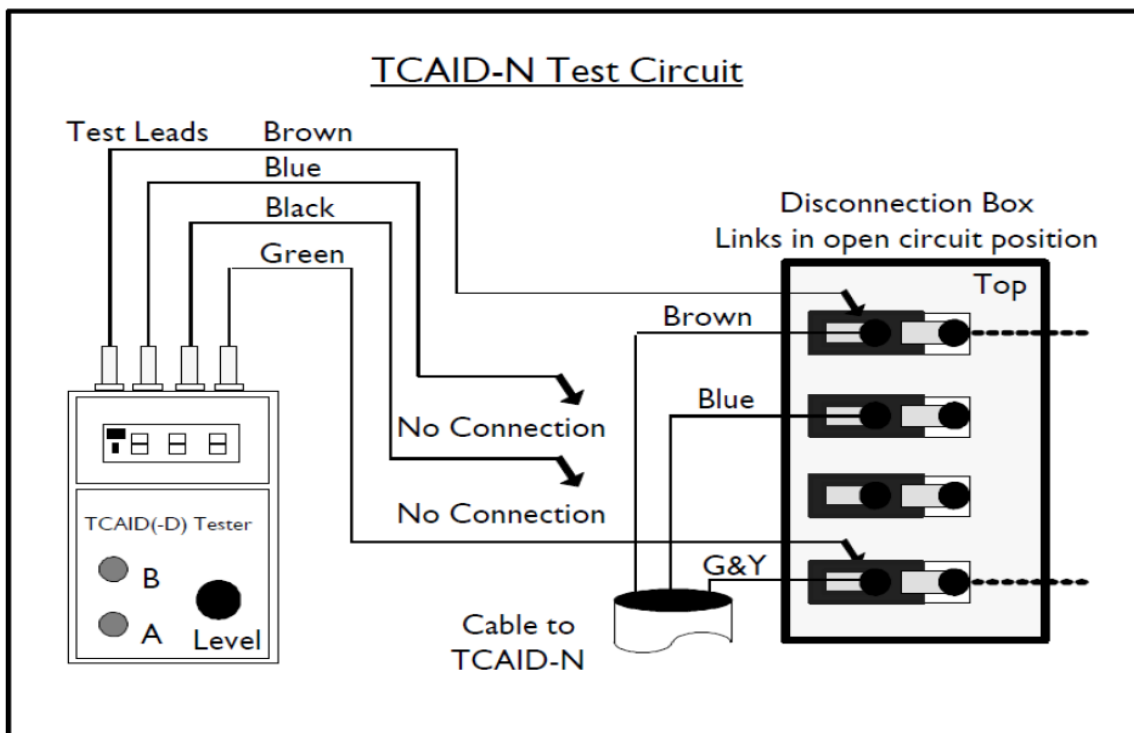
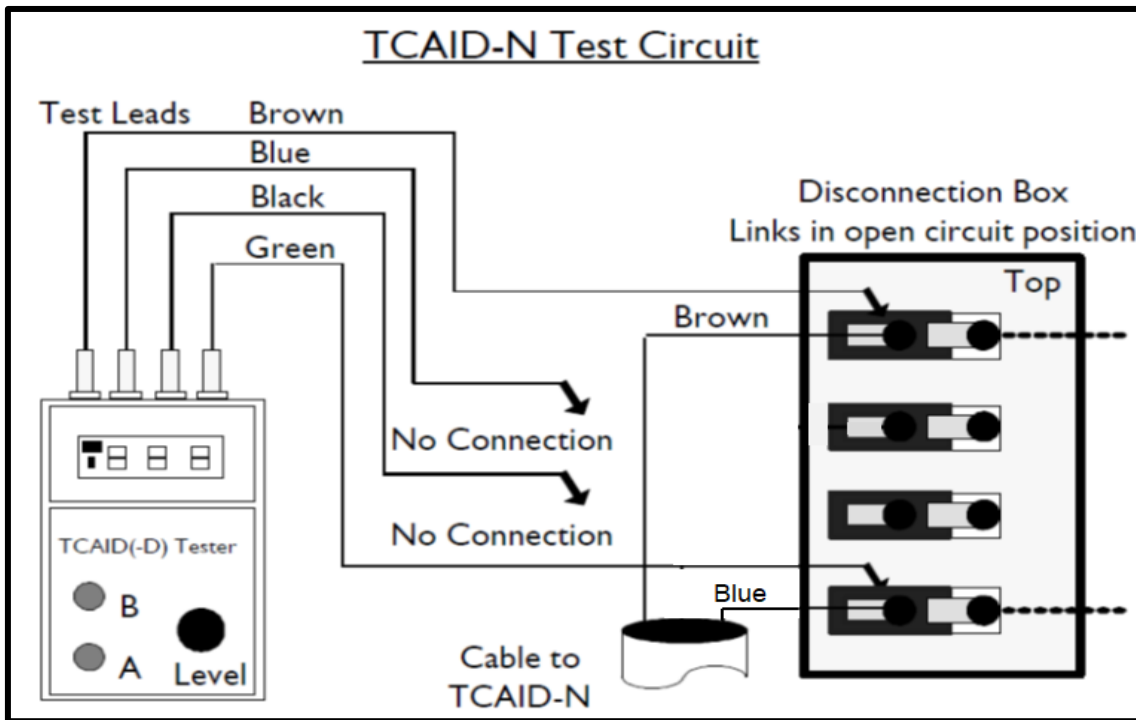
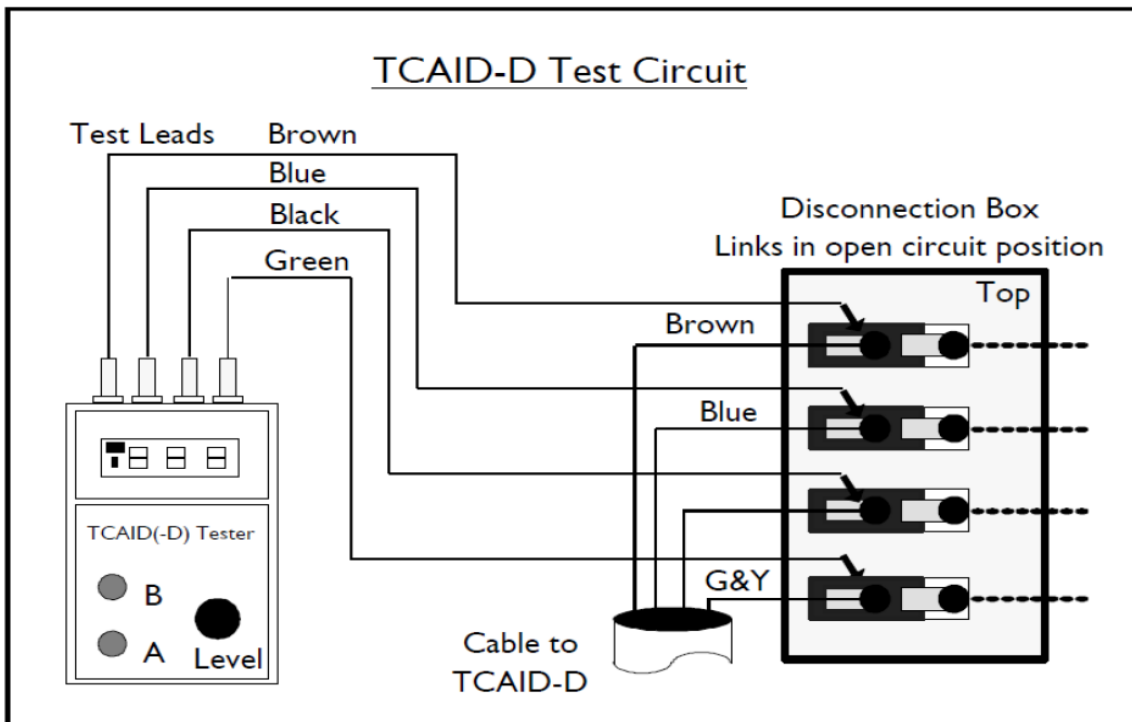

Figure 1 - Tester set up (non-directional) for MOD 0-2 versions
Figure 2 - Tester set up (non-directional) for MOD 3 versions
Figure 3 - Tester set up (directional) for all MOD versions
- 2.1 Connect the tester as shown below (Fig 1- non directional MOD 0-2 versions, Fig 2- non directional MOD 3 versions, Fig 3 – directional), checking that any un-terminated leads are isolated from each other and terminals / metalwork.